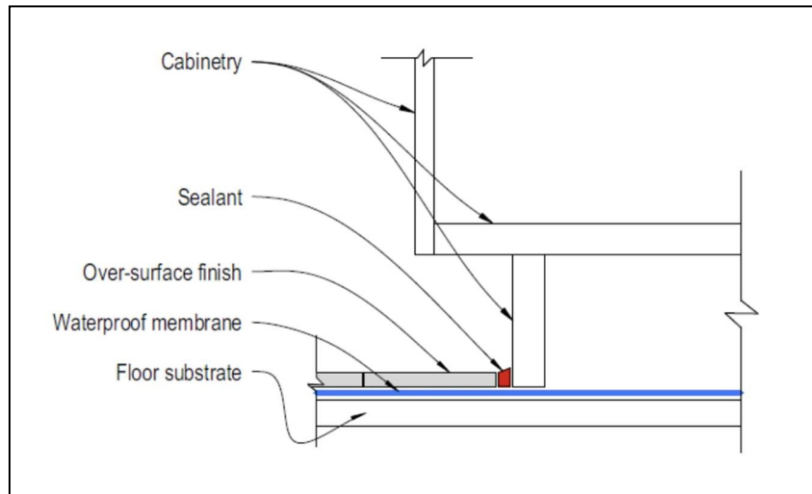

Figure 15: Waterproof membrane system installed before cabinetry
- ◆ Figure 15: Waterproof membrane system installed before cabinetry